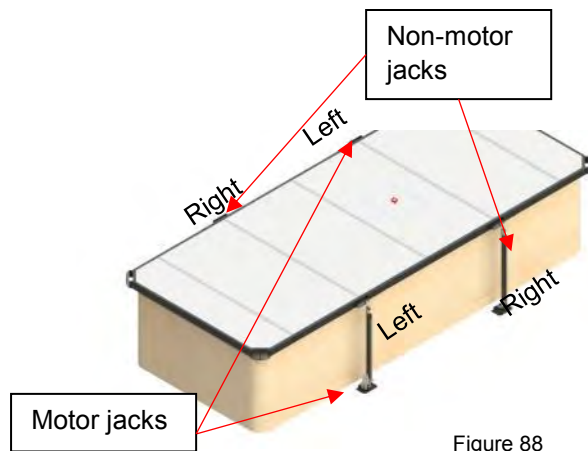

Figure 88
- 4) Position the jacks in their locations. Motorized jacks should always be on the left side when looking at the swim spa. (Figure 88)